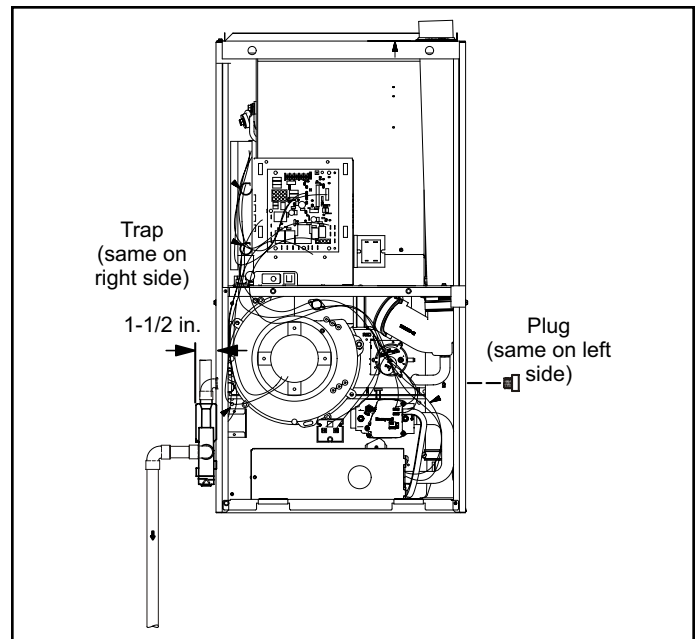

Figure 41. Condensate Trap and Plug Locations
This unit is designed for either right- or left-side exit of condensate piping. Refer to Figure 41 for condensate trap locations.
2. For furnaces with a 1/2" drain connection use a 3/8 allen wrench and remove plug (Figure 41) from the cold end header box at the appropriate location on the side of the unit. Install field-provided 1/2 NPT male fitting into cold end header box. For furnaces with a 3/4" drain connection use a large flat head screw driver or a 1/2" drive socket extension and remove plug. Install provided 3/4 NPT street elbow fitting into cold end header box. Use Teflon tape or appropriate pipe dope.